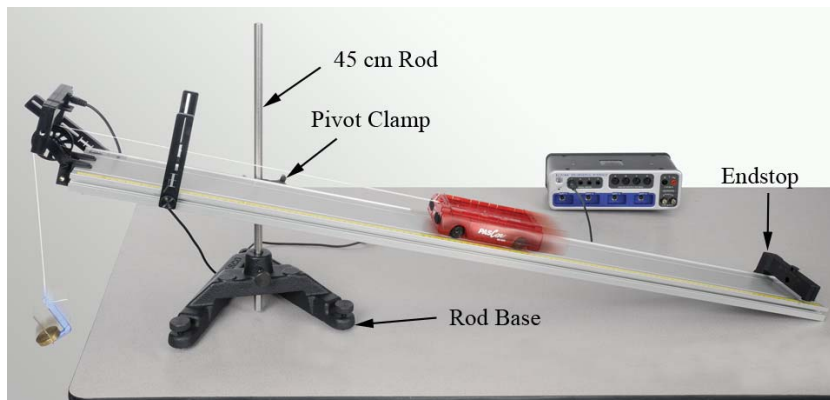

Figure 1: Measuring Cart Acceleration
1. Set-up the inclined track using the Large Rod Base, 45 cm Rod and Pivot Clamp as shown in Figure 1. Note that the feet are NOT used on the track for this experiment.